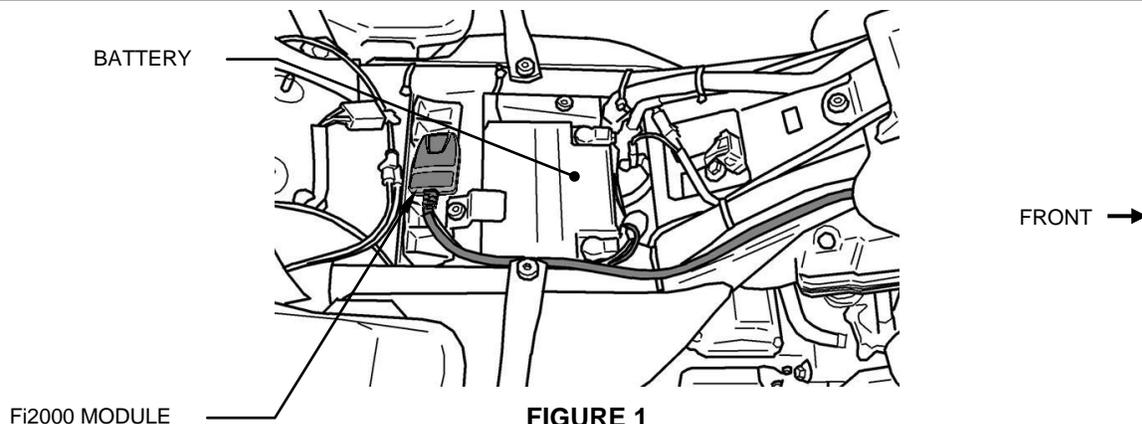
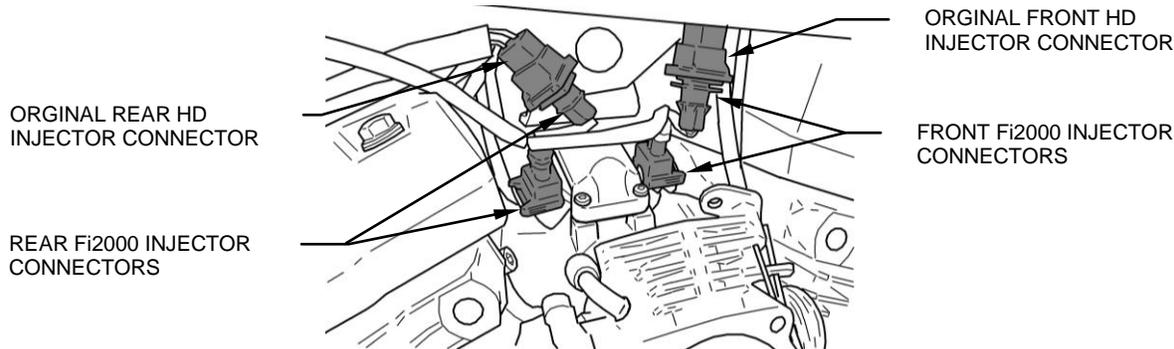
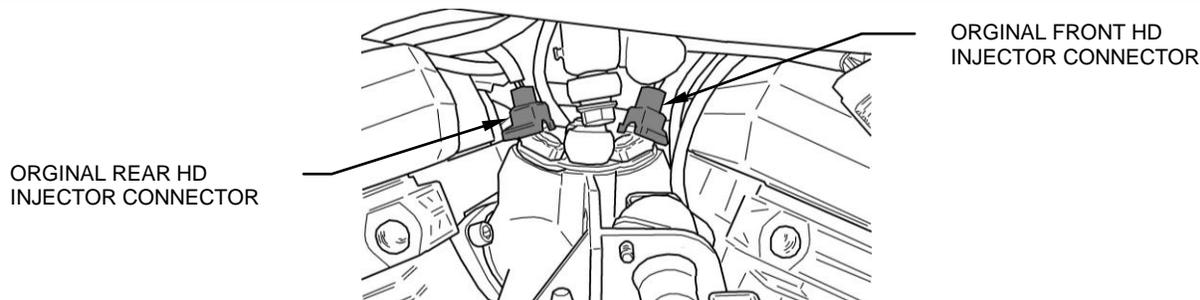

FIGURE 1
FIGURE 2
FIGURE 3 (95 - 01 W/O Fi2000 installed)
4. Lay the Fi2000 module in place, but do not attach it to the motorcycle, and run the wiring harness up to the manifold area behind the other wiring of the throttle body (See figure 1). Attach one pair of the Fi2000 module's injector plugs to the front injector. Take the original HD connector and insert the corresponding Fi2000 connector into it. (For model years 02' and Up refer to figure 2, for model years 95-01 refer to figure 3)
5. Attach the Fi2000 module's remaining pair of connectors to the rear injector. Then take the original HD connector and insert the corresponding Fi2000 connector into it. (For model years 02' and Up refer to figure 2, for model years 95-01 refer to figure 3). Use one of the supplied zip-ties to secure the Fi2000 wire harness to the upper motor mount before it is routed back towards the seat area.
6. Route the BLACK wire from the Cobra® module to the negative post of the battery as shown in figure 1.
9. Remove the backing from the Velcro and attach the Fi2000 next to the battery as shown in fig 1.